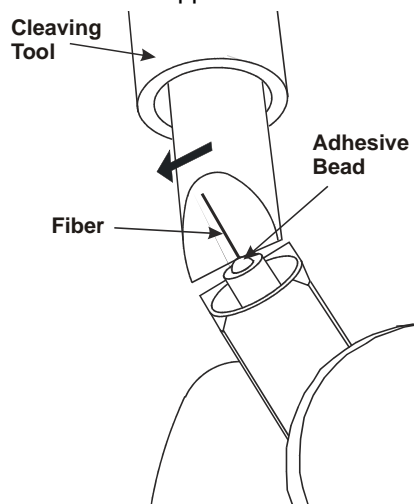

Figure 33. Score the Fiber
1. **Score the Fiber**—Remove the 1510C holder from the connector body. Using one stroke with the cleaving tool, score the fiber close to the crest of the adhesive bead (Figure 33). Scissors may be used as an optional method of removing the excess fiber.